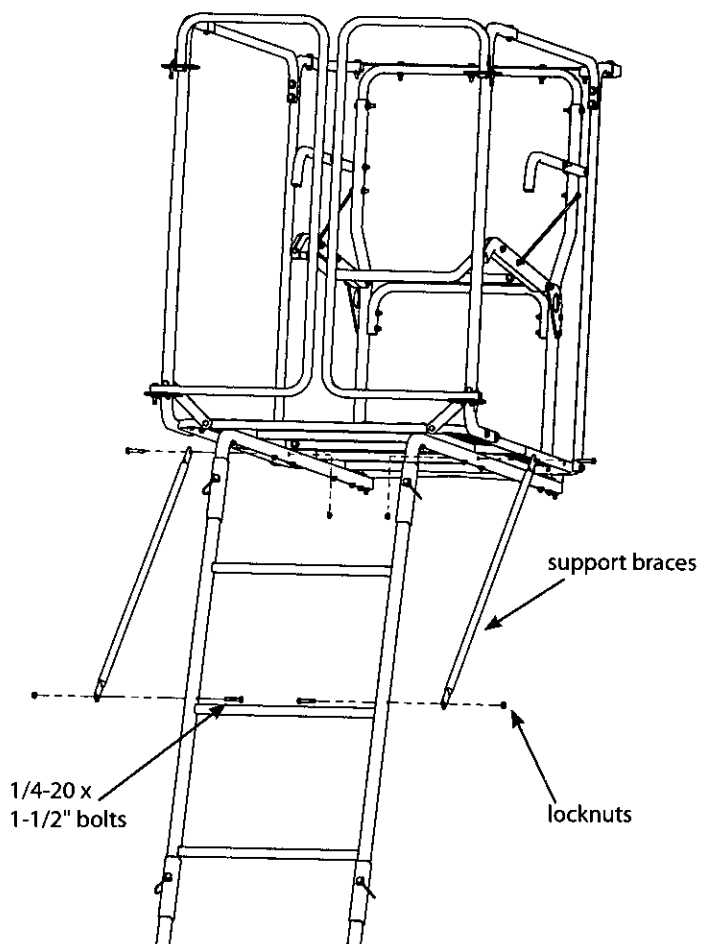

Figure 13
21. Attach the (2) support braces (410024) to the outside of platform J-pipes and outside of top ladder section w/ mounting holes using (4) provided 1/4-20 x 1-1/2" bolts and locknuts. **SEE FIGURE 13.** Tighten securely. **Be sure not to over tighten or crush tubing when tightening!**